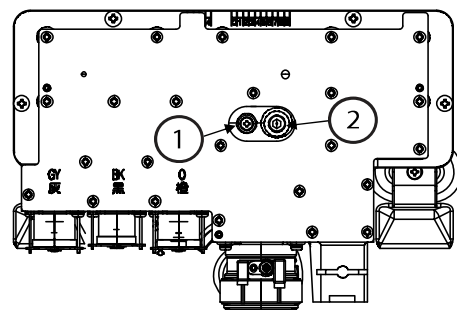

FIGURE 9
- 4) The manifold pressure will also have to be checked using a manometer (digital manometer is suggested). In order to check the gas manifold pressure, a tap is provided on the manifold plate inside the unit (Figure 9). The pressure can be checked either by removing the Philips head screw (1) and connecting a manometer with a silicon tube, or by removing the 1/8" NPT screw (2) with an Allen wrench and connecting the appropriate pressure gauge. Be sure to zero out the manometer before attaching it to the tap.